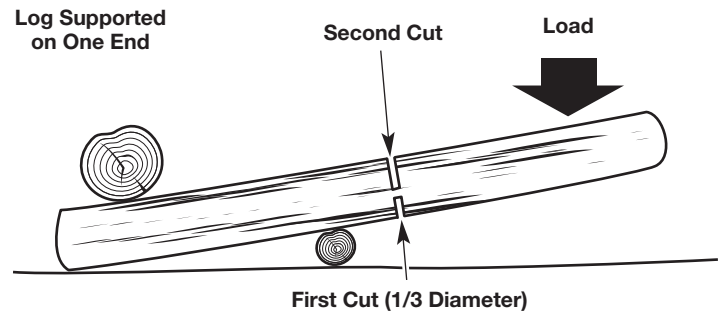

Fig. 22
- If the log is supported on one end (Fig. 22), make the first cut from below (underbucking). Refer to *Underbucking*.